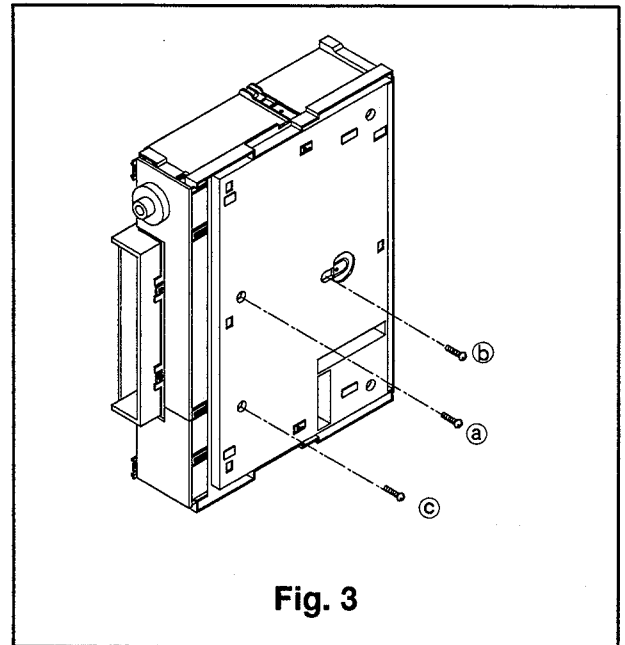

Fig. 3
- ① Remove the Top Cover referring to Para. 1 of the DISASSEMBLY.
- ② Remove the three fastening screws (a), (b) and (c) on the bottom of the set shown in Fig. 3.